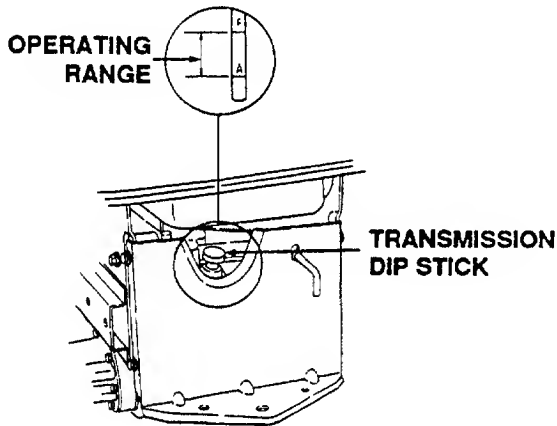

Figure 20
Check the oil level of the transmission case before each use to see that it is filled to the correct level. Before checking the transmission oil level, clean the area around the oil fill plug/dipstick to prevent debris from entering the transmission case. Always keep the oil level between the "FULL" and the "ADD" marks on the dipstick. (See Figure 20.) When checking the oil level, the dipstick must be withdrawn and wiped clean, then inserted all the way and withdrawn for a true reading.
3. Remove the oil fill plug/dipstick from oil fill port and SLOWLY pour oil into the oil fill port. Fill the transmission case until the oil level reaches the "FULL" mark on the dipstick. (Refer to Figure 20.)
6. Remove the oil fill plug/dipstick from oil fill port and SLOWLY pour oil into the oil fill port. Fill the transmission case until the oil level reaches the "FULL" mark on the dipstick. (Refer to Figure 20.)